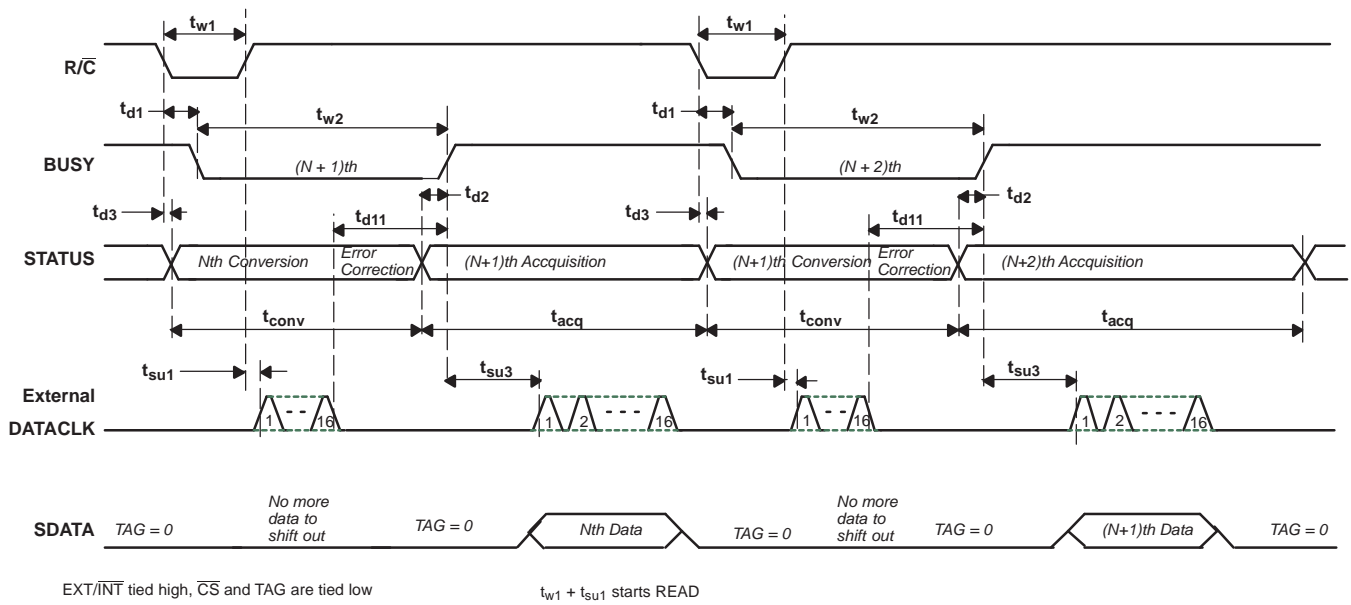
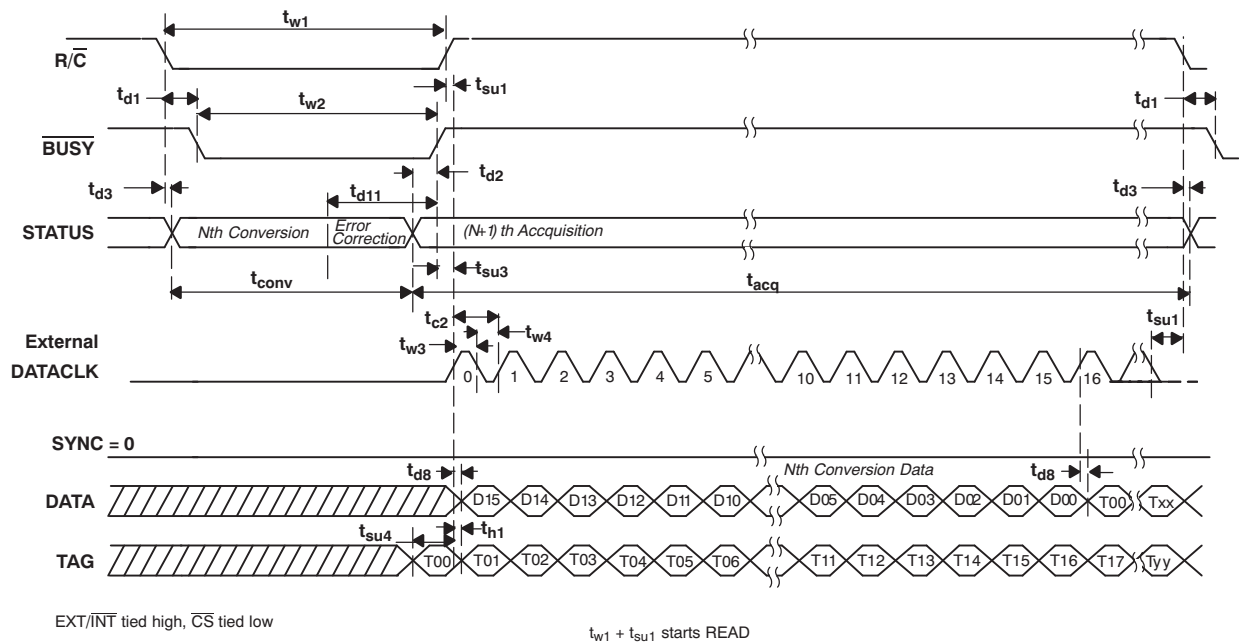
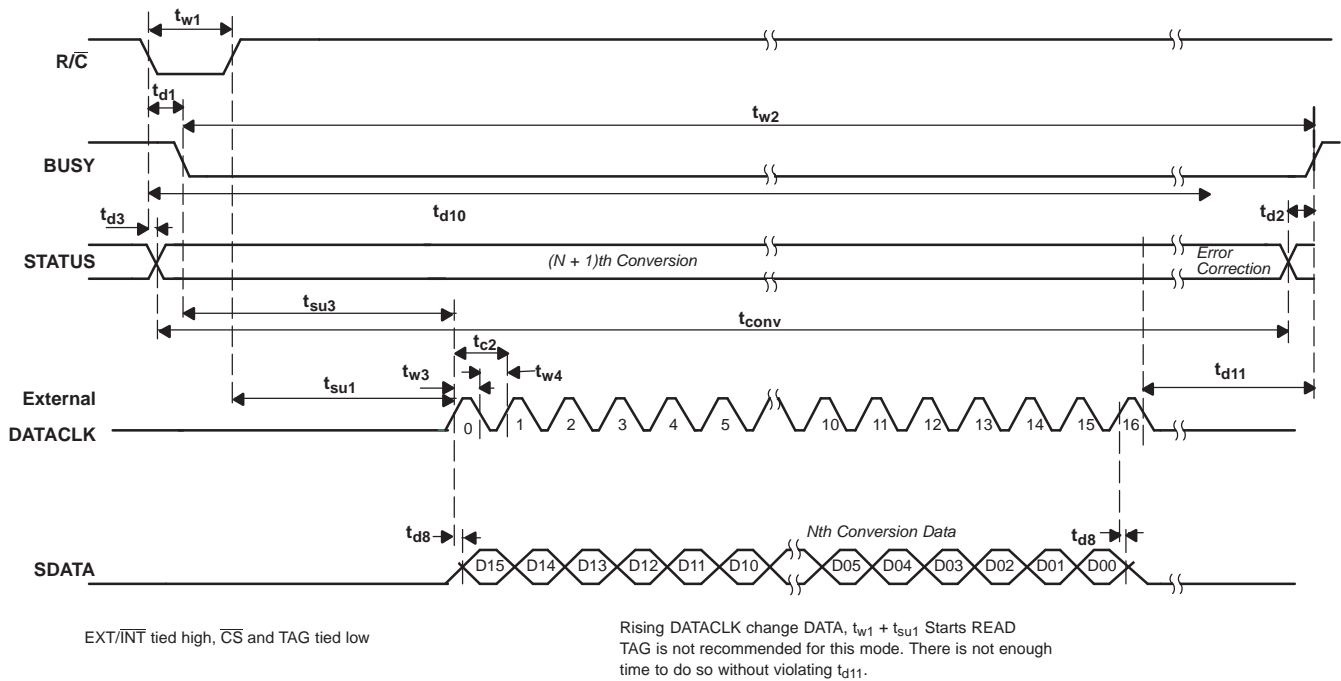

Figure 34. Basic Conversion Timing: External DATACLK
Figure 35. Read After Conversion (Discontinuous External DATACLK)
Figure 36. Read During Conversion (Discontinuous External DATACLK)
(1) See Figure 34, Figure 35, and Figure 36 for constraints on data valid from conversion *N*−1.
After conversion N is completed and the output registers have been updated, $\overline{\text{BUSY}}$ (pin 24) goes high. With $\overline{\text{CS}}$ low and R/C high, valid data from conversion N are output on SDATA (pin 19) synchronized to the external data clock input on DATACLK (pin 18). The MSB is valid on the first falling edge and the second rising edge of the external data clock. The LSB is valid on the 16th falling edge and 17th rising edge of the data clock. TAG (pin 20) inputs a bit of data for every external clock pulse. The first bit input on TAG is valid on SDATA on the 17th falling edge and the 18th rising edge of DATACLK ; the second input bit is valid on the 18th falling edge and the 19th rising edge, etc. With a continuous data clock, TAG data is output on SDATA until the internal output registers are updated with the results from the next conversion. Refer to Table 6 and Figure 35 for more information.
The switching noise of the asynchronous data clock can cause digital feedthrough, degrading converter performance. Refer to Table 6 and Figure 36 for more information.
A falling-edge-triggered transfer would initiate an SPI transfer after the falling edge of $\overline{\text{BUSY}}$, providing the host controller with the previous conversion results, while the current conversion cycle is underway. The timing for this type of interface is described in detail in Figure 36. Care must be taken to ensure the entire 16-bit conversion result is retrieved from the ADS8517 before $\overline{\text{BUSY}}$ returns high to avoid the potential corruption of the current conversion cycle.
A rising-edge-triggered transfer is the preferred method of obtaining the conversion results. This timing is depicted in Figure 35. This method of obtaining data ensures that SCLK is static during the conversion cycle and provides the host processor with current cycle conversion results.